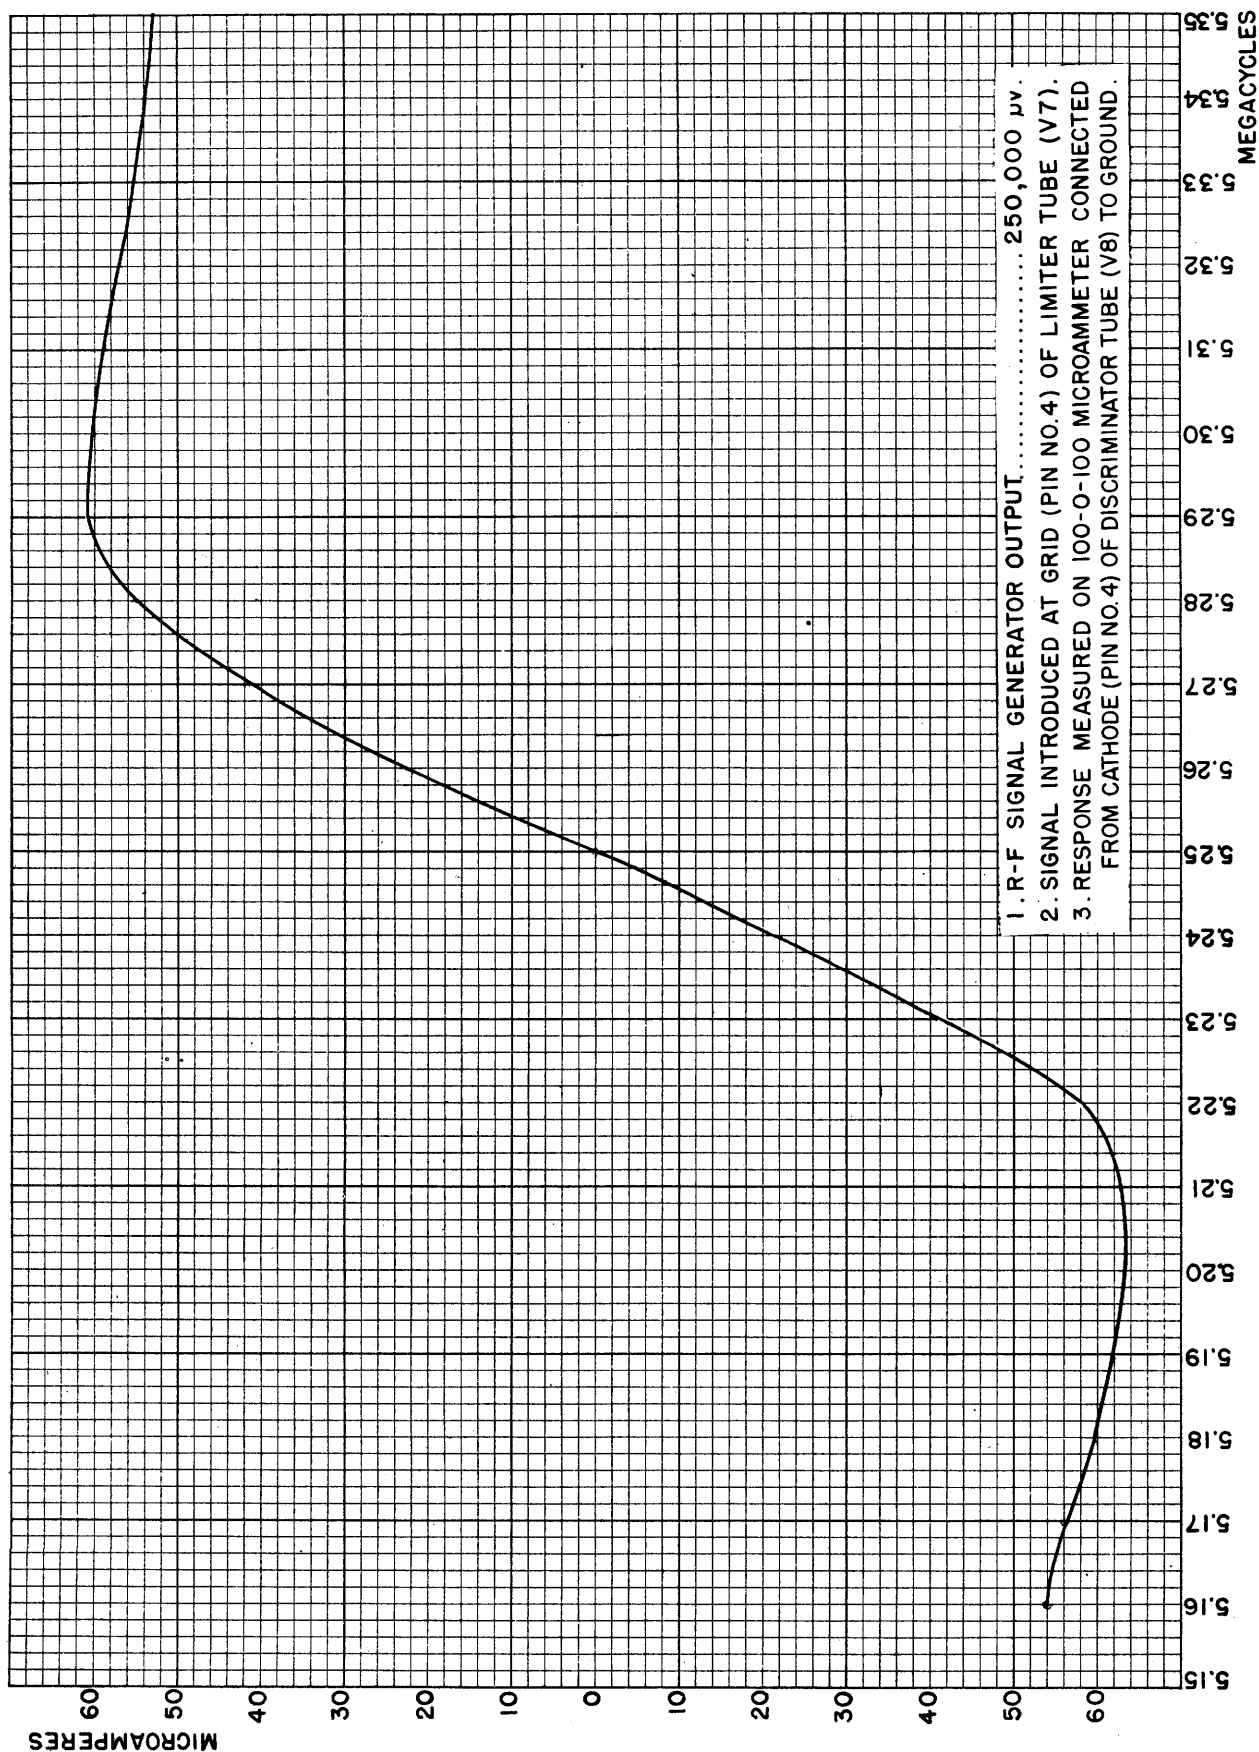

Figure 7-7: Discriminator Frequency—Characteristic Curve.
e. **F-M DISCRIMINATOR ALIGNMENT.**—The discriminator stage gives a linear response between 5.22 mc and 5.28 mc. This characteristic is inherent in the discriminator transformer (T14) and cannot be altered by adjustment. A short distance beyond these frequencies, the response falls off, so that two output peaks may be located: one between 5.21 and 5.22 mc, and the other at approximately 5.29 mc. A curve of the discriminator frequency characteristic is shown in Figure 7-7. The alignment procedure makes use of this characteristic in the following steps:
(1) Set the "A.M./F.M." switch on the control panel of the receiver to the "F.M." position.
(2) Set the "SELECTIVITY" switch at the "BROAD" position.
(3) Connect the signal generator according to the instructions of step (1) of the I-F ALIGNMENT PROCEDURE.
(4) Tune the Navy Model LF-series Signal Generator to 5.25 mc, and turn on the 1000 cycle modulation.
(5) Adjust the secondary slug screw (S8) of the discriminator transformer (T14) with the non-metallic screw driver until the "CARRIER INDICATOR" meter (M1) indicates "0." Turn the screw (S8) slowly as this point is reached; it is easy to pass through it